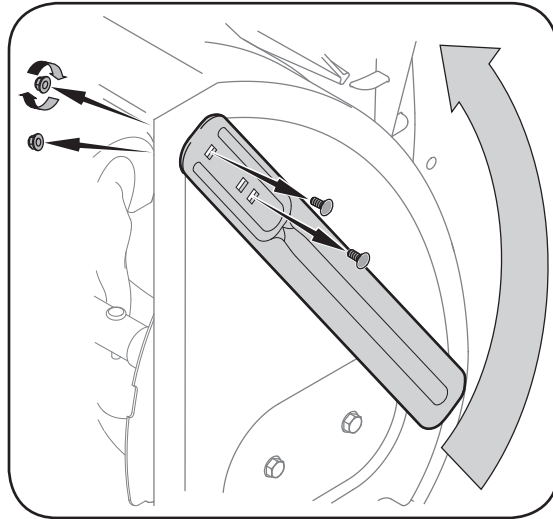

Figure 9
- Remove the carriage bolts by unthreading the hex nuts which secure them, and reinstall the drift cutters facing forward before operating the snow thrower. Refer to Figure 9.